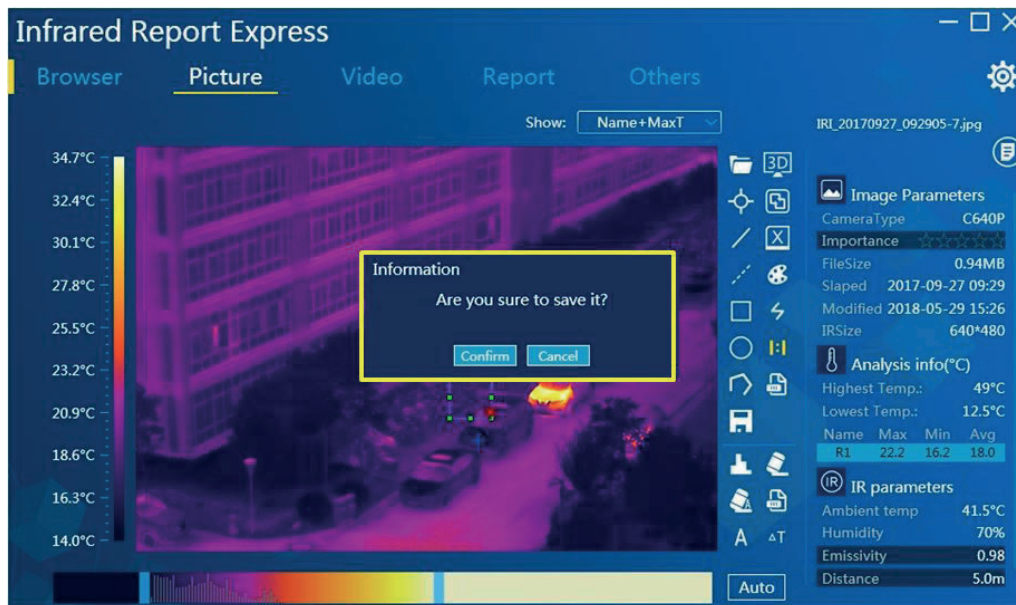

Figure 3-45
3. After the analysis is complete, click the report generation button [] in the menu bar, the system will pop up the prompt message about whether to save the analysis, and then click the button [OK]. See Figure 3-45: